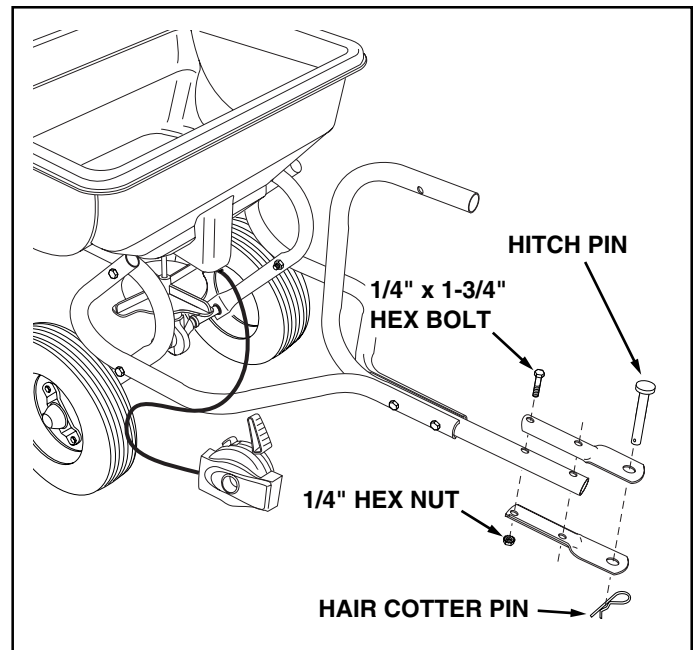

FIGURE 3
4. Assemble the Hitch Brackets to the Hitch Control Tube using two 1/4" x 1-3/4" hex bolts and 1/4" hex nuts. **Tighten.** See figure 3.
5. Assemble the hitch pin through the hitch brackets and secure with the 1/8" hair cotter pin. See figure 3.